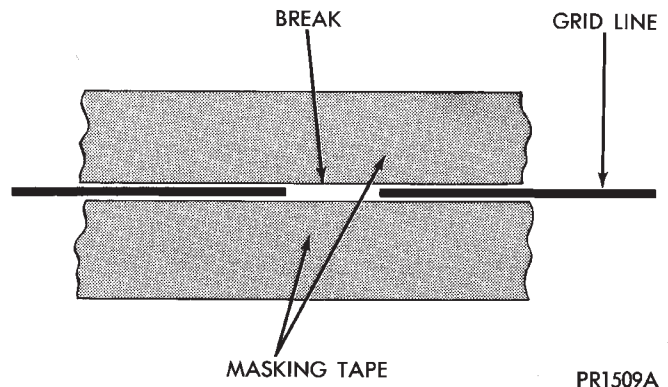

Fig. 7 Grid Line Repair
(1) Mask repair area so conductive epoxy can be extended onto the line or the bus bar (Fig. 7).
(2) Follow instructions in repair kit for preparing damaged area.
(3) Remove package separator clamp and mix plastic conductive epoxy thoroughly. Fold in half and cut center corner to dispense epoxy.
(4) For grid line, mark off area to be repaired with masking tape or a template (Fig. 7).
(5) Apply conductive epoxy through slit in masking tape. Overlap both ends of the break by 19 mm (3/4 inch).
(6) For a terminal or pigtail replacement, mask adjacent areas so epoxy can be extended onto line as well as bus bar. Apply a thin layer of epoxy to area where terminal was fastened and to adjacent line.
(7) Apply a thin layer of conductive epoxy on terminal and place terminal on desired location. To prevent terminal from moving while the epoxy is curing, it must be wedged or clamped.